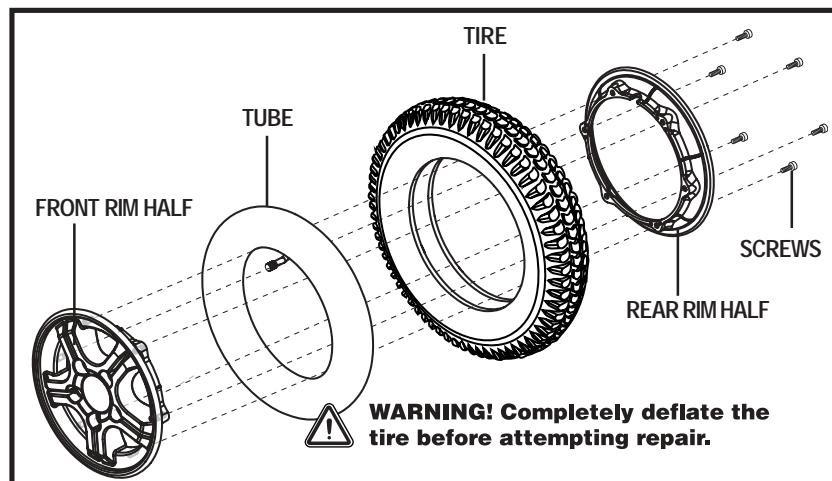

Figure 21. Drive Wheel Disassembled
6. Remove the screws and separate the front and rear rim. See figure 21.
10. Reinstall the five (5) lug nuts onto the wheel hub and tighten.